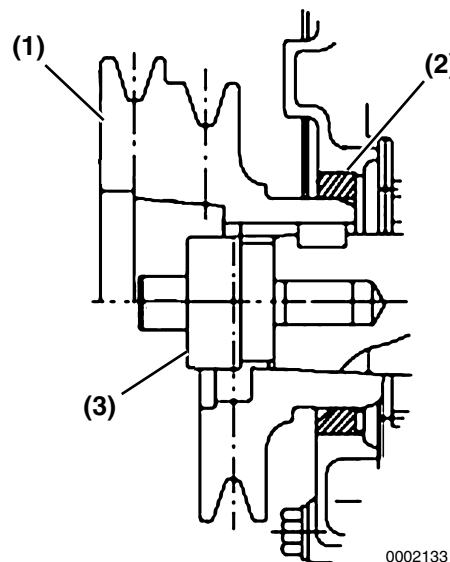

Figure 6-145
4TNV94L: Use the crankshaft pulley installation tool **(Figure 6-145, (3))** when reinstalling the pulley **(Figure 6-145, (1))**. The tool will guide the pulley hub and protect the front seal **(Figure 6-145, (2))** from damage.